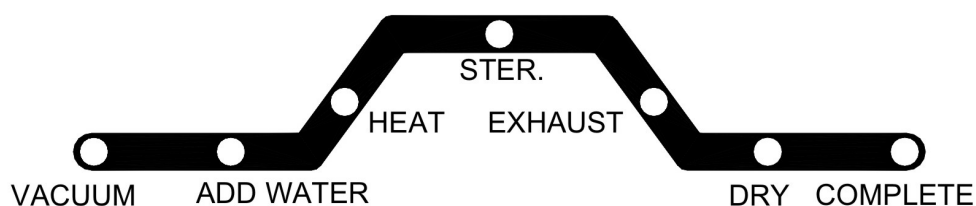

Figure 53
- D. Press the START Button  and the sterilizer will automatically run through the selected program. The current progress of the sterilization cycle is indicated by the illuminated LED on the Process Status Indicator. (Figure 53)
G. Press the **START** Button and the sterilizer will automatically run through the selected program. The current progress of the sterilization cycle is indicated by the illuminated LED on the Process Status Indicator. (Figure 53)